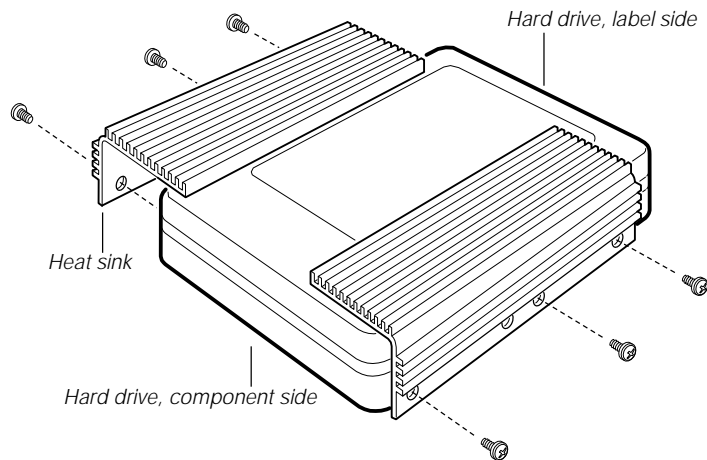

Figure 19: Installing Heatsinks on a Hard Drive
1. Position each heatsink (Figure 19) so that the three screw holes in the heatsink align with the corresponding holes in the hard drive. The holes are placed so that you can position the heatsink in only one way: with the fins extending along the side and the top of the hard drive.